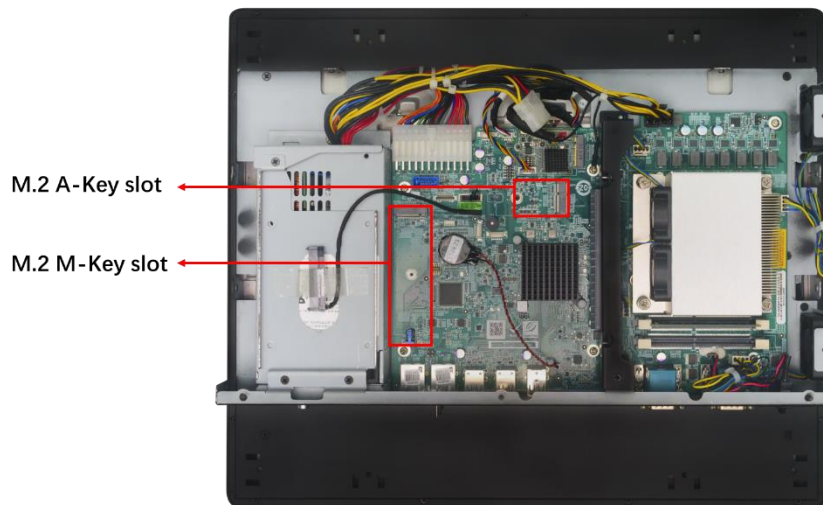

Figure 3-8: M.2 Slot Locations
Step 2: Locate the M.2 slot as shown in **Figure 3-8**.